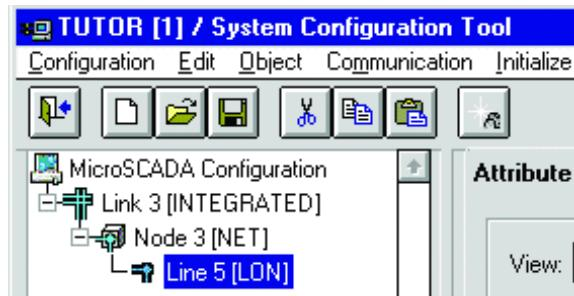

Figure 6: Selecting a LON line in the configuration tree
1. Select **Configuration/Open Active**. In the Configuration tree, select a LON line. See Figure 6.